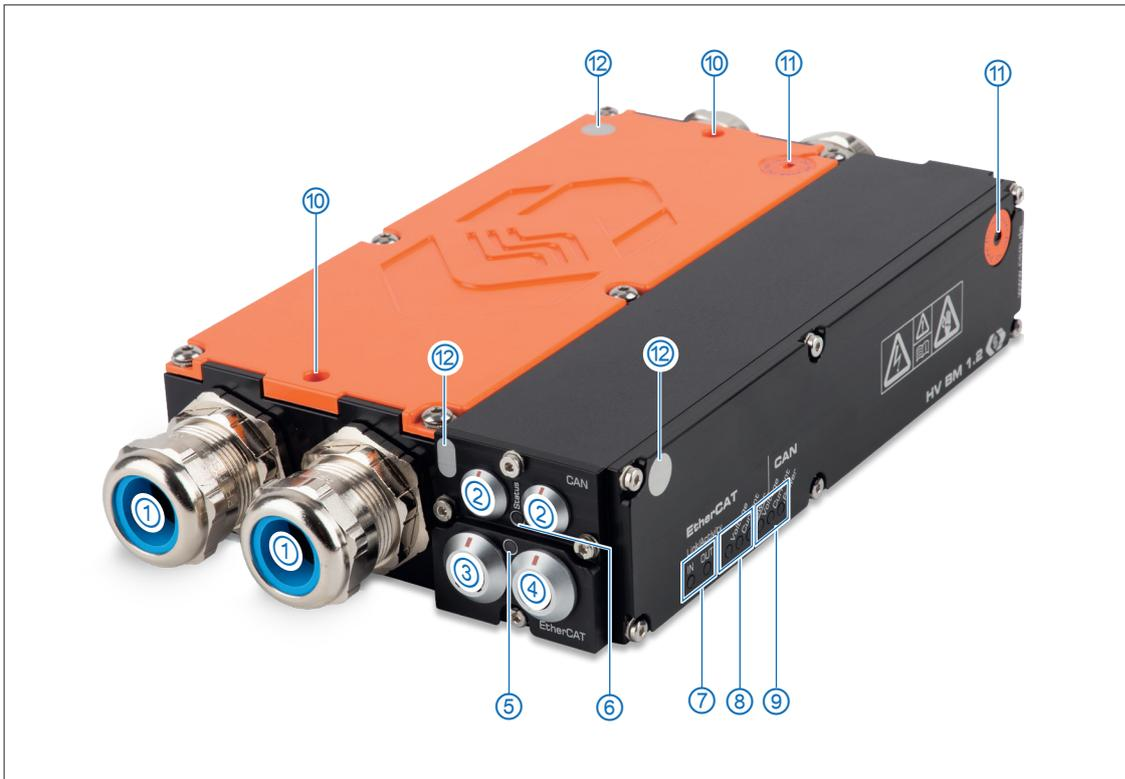

Fig. 3-1: HV BM 1.2, front view
Fig. 3-1 shows the connections of an HV BM 1.2. The module versions HV BM 1.1 and HV BM 3.1 are equipped with only one PG gland ① on each side of the housing and they lack the holes for the threaded bolts ⑩. As for the HV BM 3.1, the connection sockets (CAN/EtherCAT®) are also located on the opposite side. Otherwise these modules are identical to the HV BM 1.2.
After the measurement module is switched on, the two-colored status LED (Fig. 3-1, ⑤) is lit red for approx. 1.2 seconds and then fades out.²
The LED indicator (Fig. 3-1, ②) between the two CAN sockets provides information on the operating status of the measurement module.
The LED indicators for the sockets **IN** and **OUT** (Fig. 3-1, ⑦) are lit or are flashing if the measurement module is electrically connected to an XCP-Gateway or if data is being transferred.
The measurement channel LED indicators (Fig. 3-1, ⑧ and ⑨) provide information on the status of the corresponding measurement channel and the sensor excitation. There are separate LED indicators for access via CAN bus or EtherCAT® bus. The measurement channels are arranged as follows (left to right):